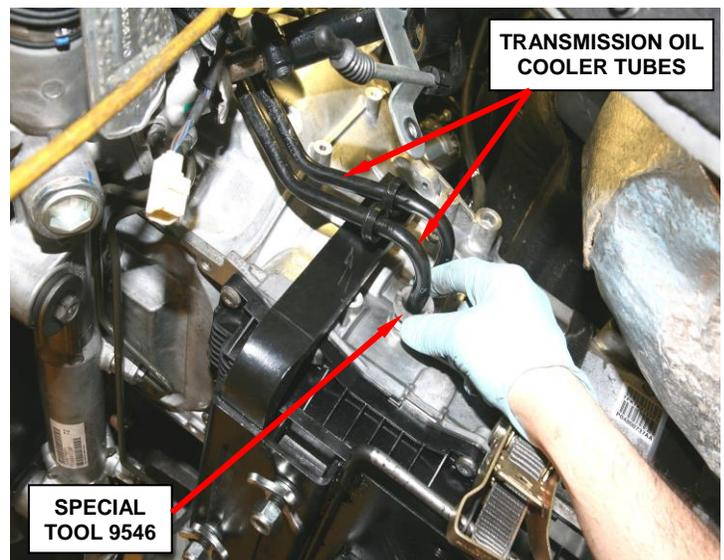

Figure 13 – Transmission Oil Cooler Tubes
17. Using Special Tool 9546, disconnect the transmission oil cooler tubes at the transmission (Figure 13).